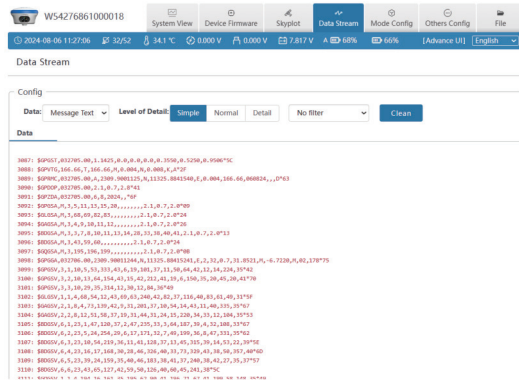

Figure 2.4-2
1.Message Text: see 2.9 in this Section for the configuration of message text, and the output is shown in Figure 2.4-2: